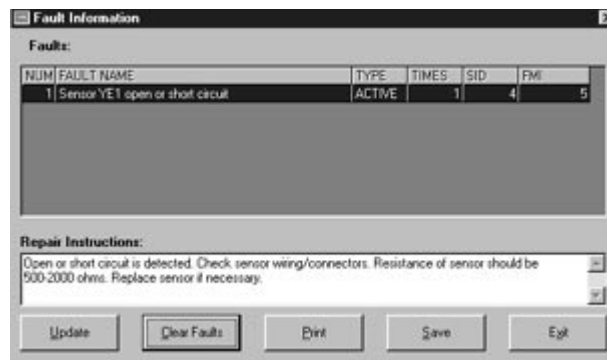

Figure 2-23: Fault Information Screen
5. Use the information in the **Repair Instructions** field to make the necessary repairs. See Figure 2-23.